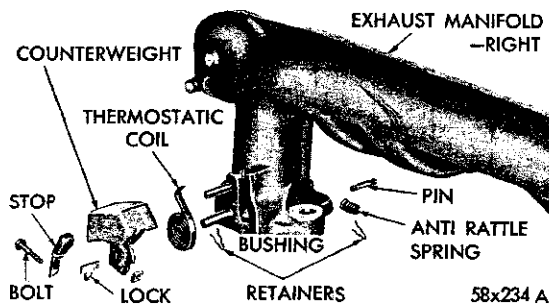

Fig. 8—Manifold Heat Control Valve
Inspect the operation of the heat control valve (Fig. 8) every 1,000 miles and apply manifold heat control valve solvent MoPar Part No. 1879318 to both ends of the valve shaft. With engine idling, accelerate the engine and release quickly. The counterweight should respond by moving clockwise approximately 1/2 inch and return to its normal position.
**Disassembly (Fig. 8)**
- (1) Loosen the counterweight clamp bolt and remove the counterweight, lock and stop from the end of the shaft, exposing the thermostatic coil.
- (2) Unhook the coil from the pin and remove by sliding out of the valve shaft slot.